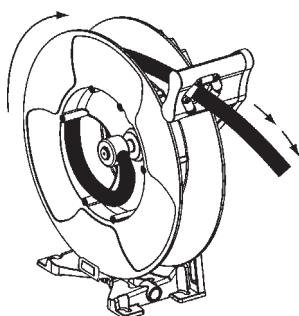

Fig. 11
1. Pull the hose out 10 feet (3meters) and let the hose get latched (Fig. 11).
1. Pull the hose out 10 feet (3 meters) and let the hose get latched (Fig. 11).
1. Extraer unos 10 pies (3 metros) de manguera y trincar la manguera (fig. 11).